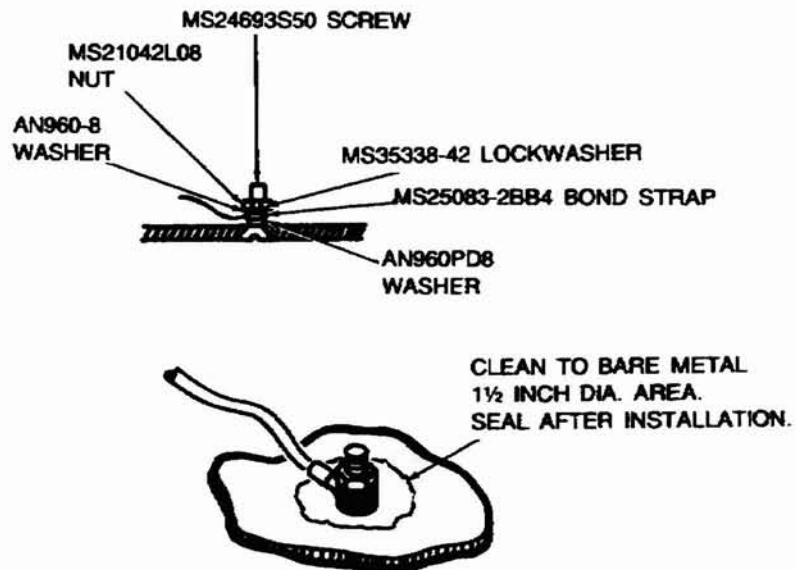

Figure 2
5. Refer to Figure 2 and clean a small area around the countersunk hole in the instrument subpanel to bare metal. Clean the bare metal with 1,1,1 Trichloroethane or equivalent (adequate ventilation required, obtain locally).
8. Attach a P/N MS25083-2BB4 bond strap at the hole on the lower right hand corner of the instrument subpanel using a P/N MS24693S50 screw, a P/N AN960PD8 washer under the bond strap terminal, a P/N AN960-8 washer, and a P/N MS35338-42 lockwasher between the P/N MS21042L08 nut and the bond strap terminal lug. (see Figure 2)